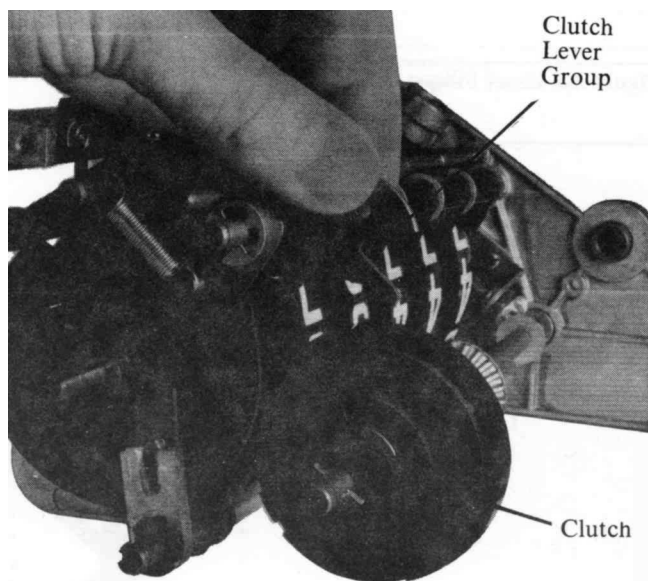

Figure 7. Clutch Group Removal.
2. Remove retaining rings and washers securing the pinion, reset, anti-topping and clutch shafts to the right-hand side plate (Figure 7). Remove screws and lockwasher securing the totalizer group and rear mounting bar tram right-hand side plate.
- b. Move clutch lever group so clutch is free. See Figure 7. Remove clutch shaft group. See Paragraph C, 1 for parts replacement.